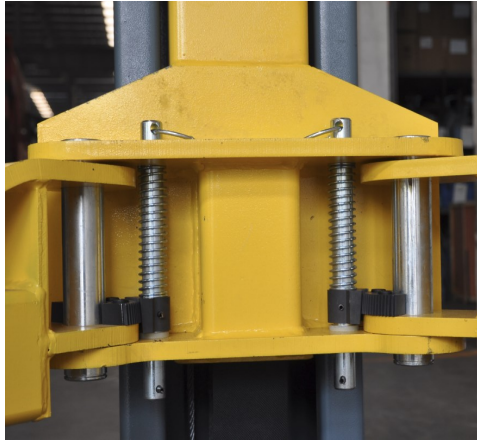

Fig. 37
- ◆ Press the up push button, raise the carriages to a height of about 70cm off the ground, then press the lock push button, **SET THE MAIN SWITCH (IG) TO POSITION 0 AND CUT OFF THE POWER SUPPLY TO THE LIFT.**
- ◆ Mount the arms into the carriage supports and insert the dowel pins into the support holes as shown in **Fig. 37**. Notice the entry of both arms is the same with the entry of the vehicle.